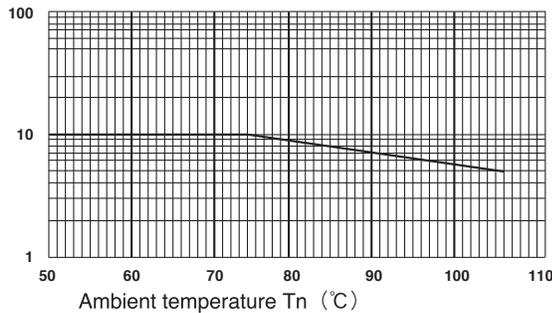

Fig 2-18 Acceleration coefficient of temperature rise due to ripple; K
- K : Acceleration coefficient of temperature rise due to ripple [refer to the chart below (Fig. 2-18); applicable coefficient is for the range below the maximum operating temperature To (°C)]